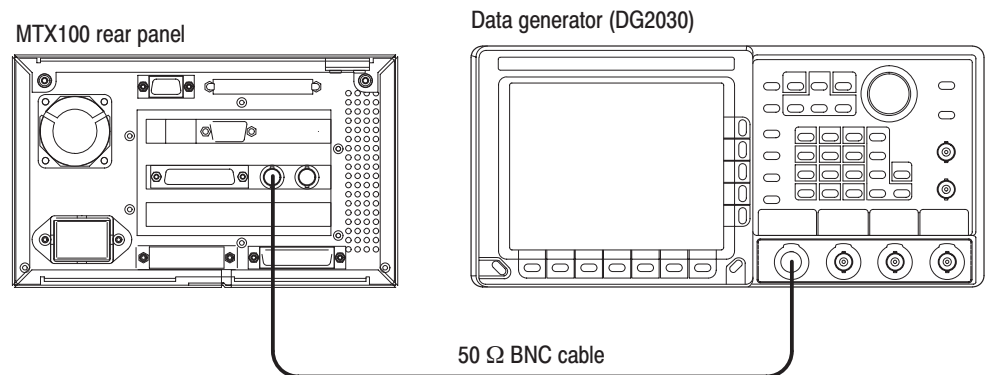

Figure 4-3: Equipment connection for verifying the external trigger input
1. Use the 50 Ω BNC cable to connect the TRIG IN connector on the MTX100 to the CH0 connector on the front panel of the data generator as shown in Figure 4-3.